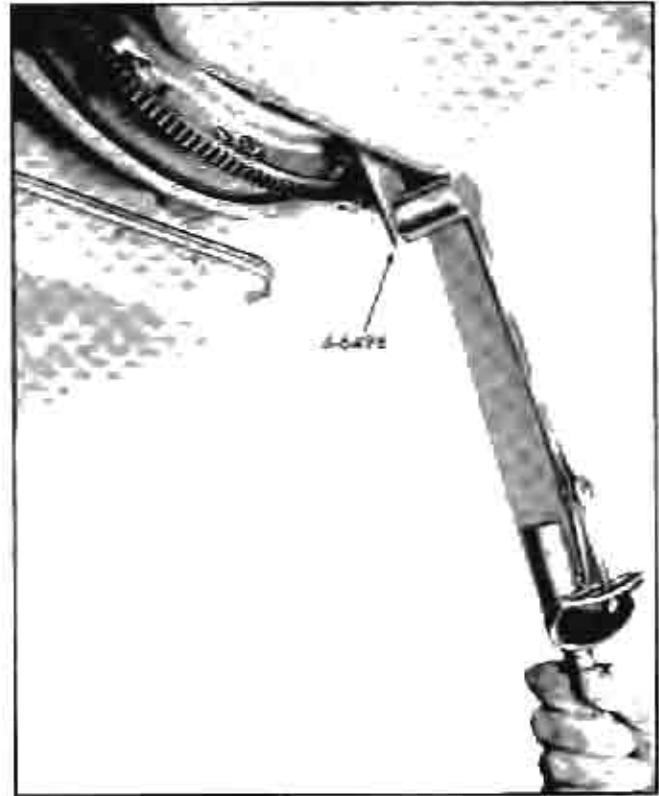

Fig. 179 Using Torque Wrench Extension J-6498
10. Install nuts which retain flex plate to flywheel and torus cover and tighten to 15 lb. ft. torque using torque wrench with extension J-6498 (Fig. 179).